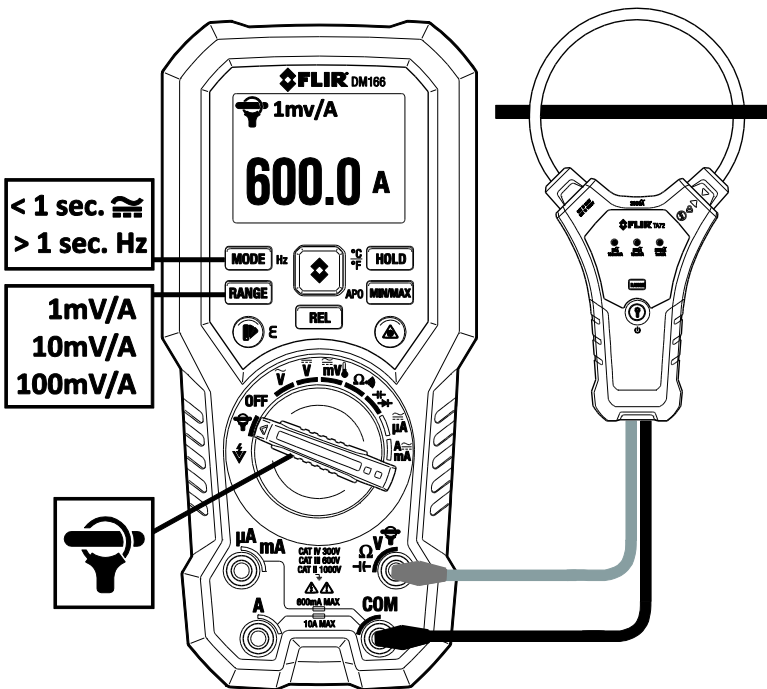

Fig. 6-10 FLEX Clamp Application
2. Connect a Clamp adaptor as shown in **Fig. 6-10**.